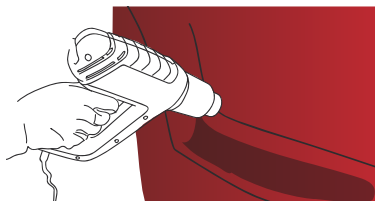

Fig. 11
- › When finished, reheat all hollow areas that have undergone strong stretching to between 80 and 90 °C (176 and 194 °F) in order to definitely thermoform the product (FIG. 11).